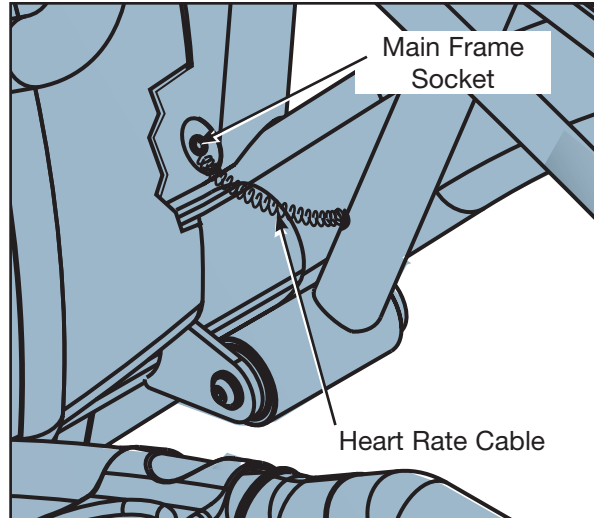

Figure 11
- A. Locate contact heart rate wire exiting from the right handrail. See Figure 11.